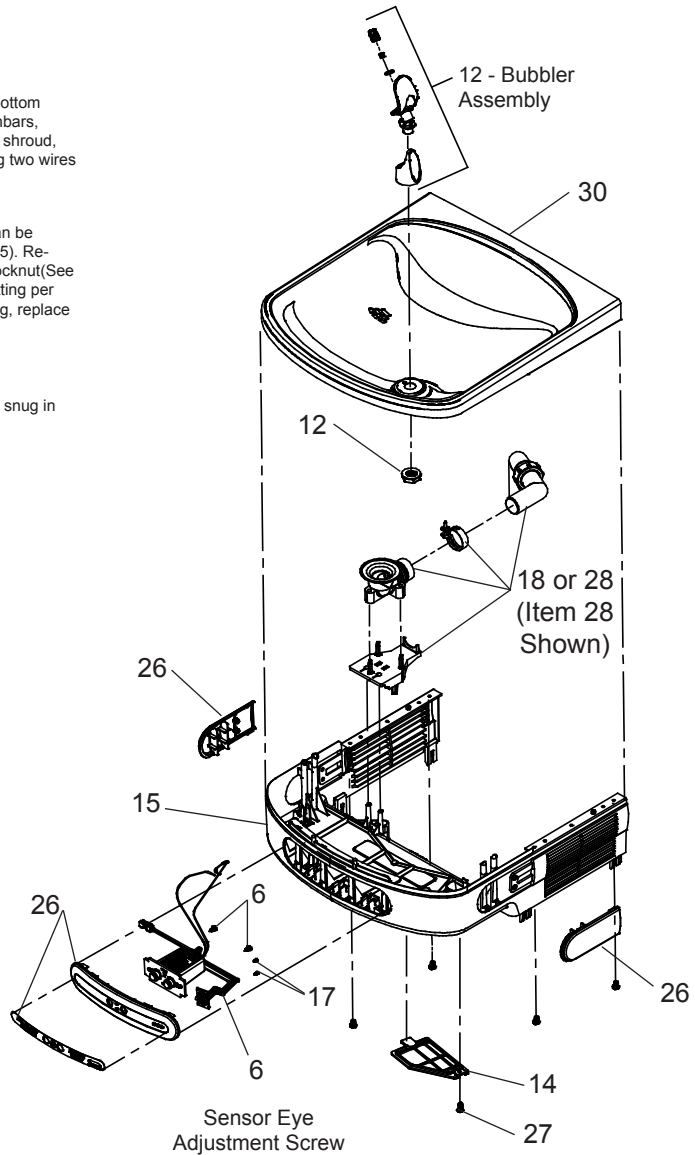

FIG. 5
- Using a small tip screwdriver, locate range adjustment screw through the small hole between the sensor lenses (See Page 1.) Turn this screw clockwise to increase range and counterclockwise to decrease range (See Fig. 5).